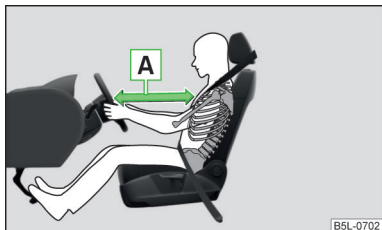

Fig. 9
- It is important that the driver and front passenger maintain a distance of at least 25 cm to the steering wheel or dashboard A » Fig. 9. Not maintaining this minimum distance will mean that the airbag system will not be able to properly protect you - hazard! The front seats and the head restraints must always also be correctly adjusted to match the body size of the occupant.